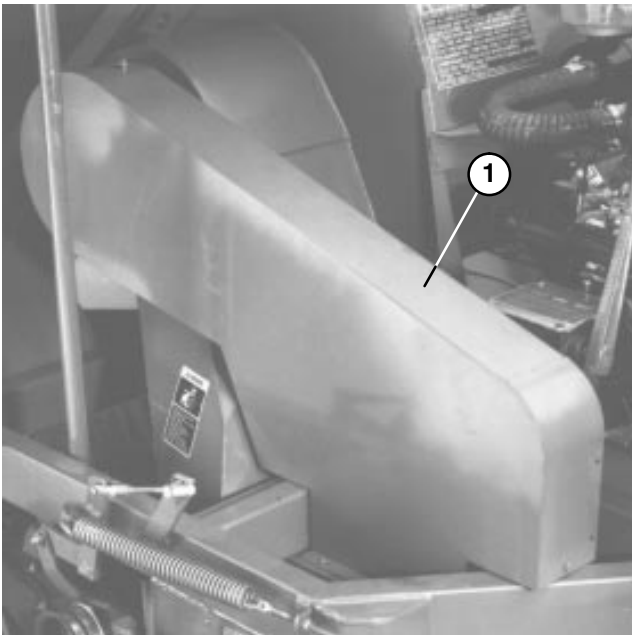

Figure 34
NOTE: It is not necessary to remove upper belt guard (Fig. 34) to check belt tension. If for some reason belt guard must be removed, remove (4) capscrews, washers and nuts securing guard to frame. **Never operate sweeper without guards in place.**
A. Remove (4) capscrews, washers and nuts securing upper shroud to frame (Fig. 34).